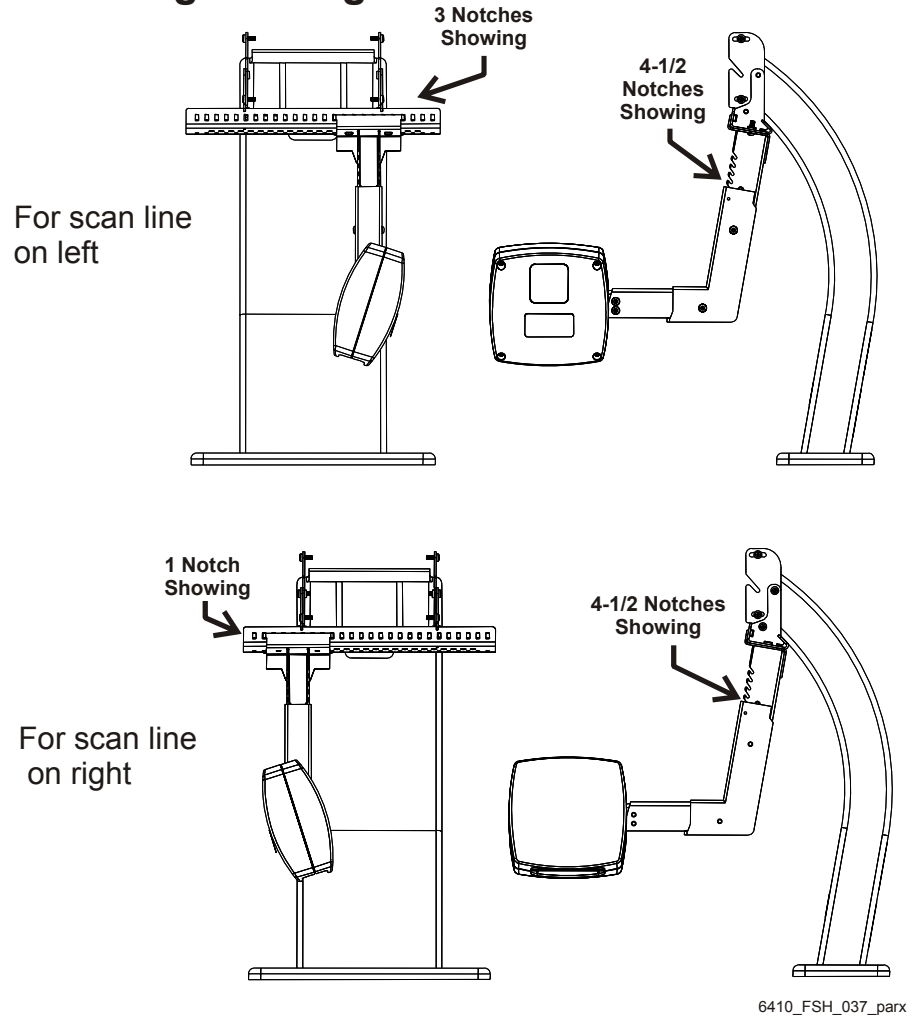

Figure 35 Starting Point
- 3** Connect the assembly to the vertical bracket, mount it on the monitor stand, and then adjust as required. Use the information in Figure 35 to establish a starting point.